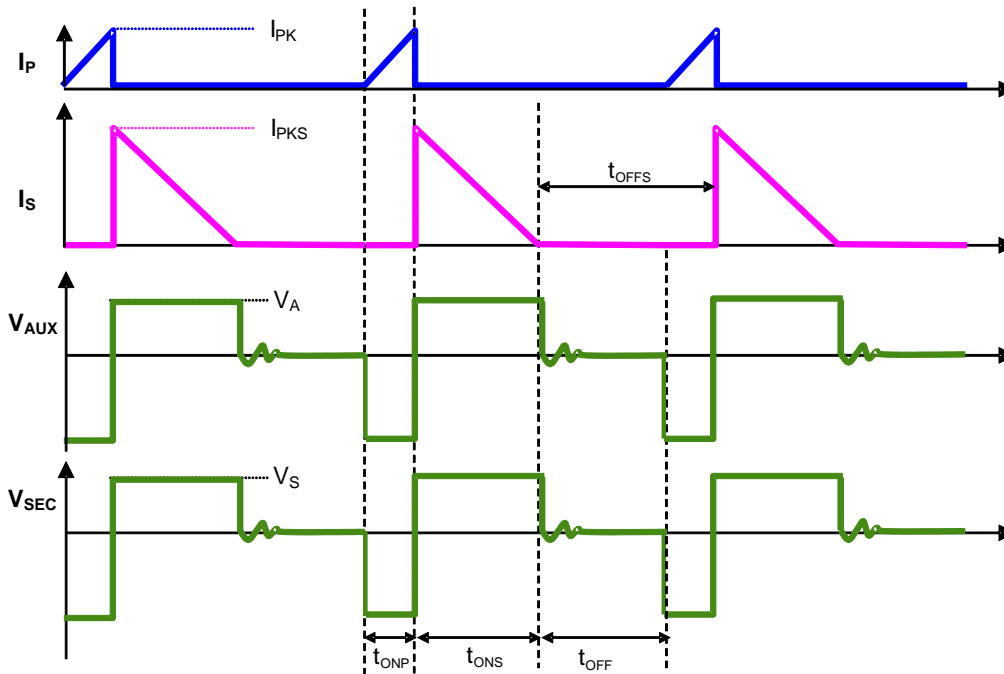

Figure 2. The Operation Waveform of Flyback PSR System
Figure 2 shows the typical waveforms which demonstrate the basic operating principle of AP3776 application. And the parameters are defined as following.
As illustrated in Figure 2, when the current  $i_p(t)$  rises up to  $I_{PK}$ , the switch Q1 turns off. The constant peak current is given by:
The AP3776 can work in constant-current (CC) mode. Figure 2 shows the secondary current waveforms.